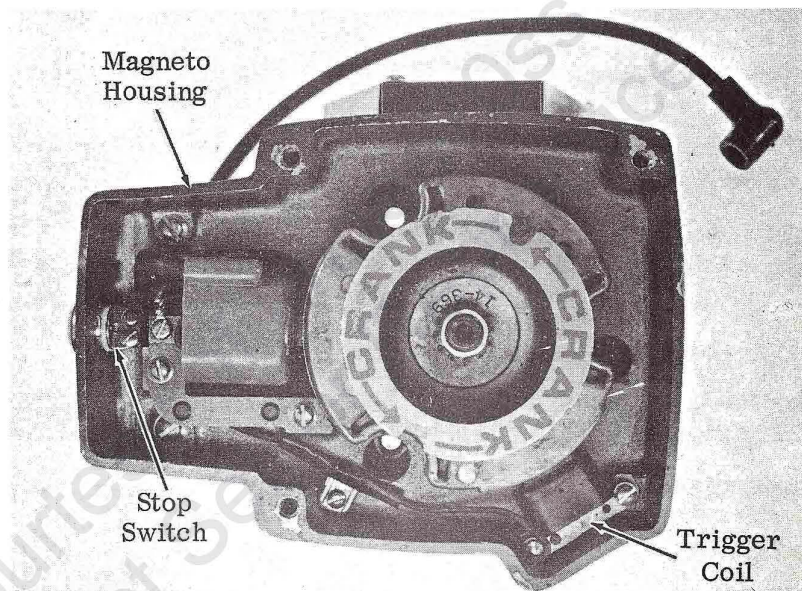

Figure 1
- d. Check for a short between the knife terminals connecting the trigger coil lead to the lead from the switch box. All leads should be dressed as shown in Figure 1.